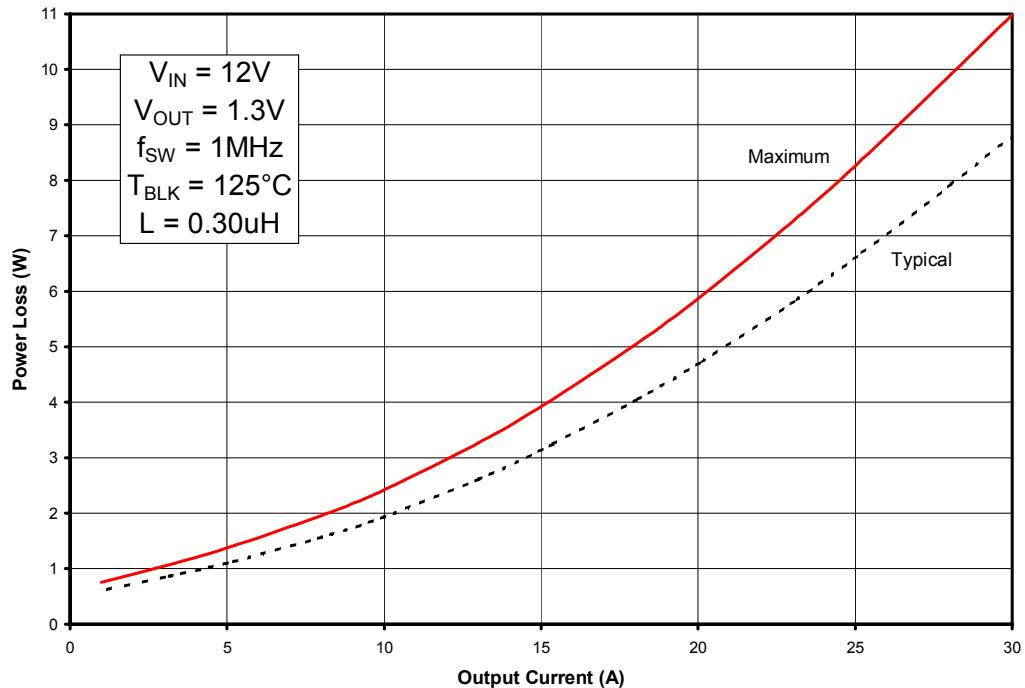

Fig. 1: Power Loss vs. Current
To make adjustments to the power loss curves in Fig. 1, multiply the normalized value obtained from the curves in Figs. 3, 4, 5 or 6 by the value indicated on the power loss curve in Fig. 1. If multiple adjustments are required, multiply all of the normalized values together, then multiply that product by the value indicated on the power loss curve in Fig. 1. The resulting product is the final power loss based on all factors. See example no. 1.
- (Fig. 1) Maximum power loss = 11W